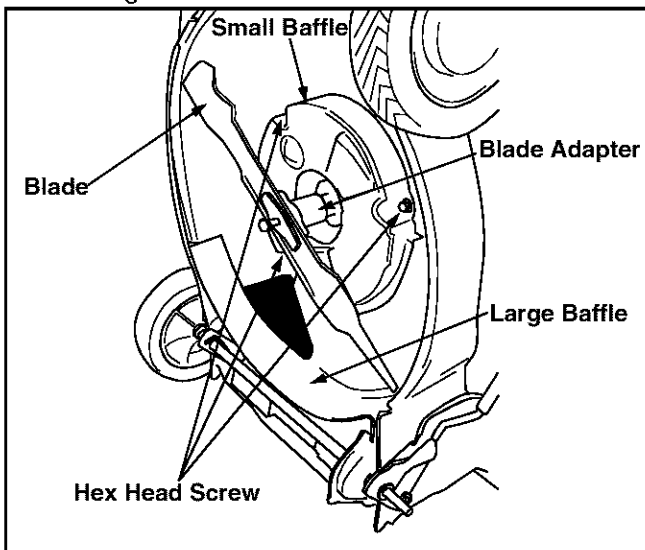

Figure 20
- Remove the blade, blade adapter and related hardware. See Figure 20.
- Replace the large baffle. Refer to Figure 20.